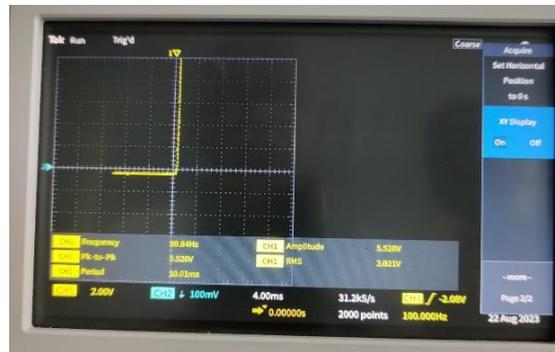

Fig. E2 – XY plot – medium light conditions
- h) Take measurements for two light conditions – medium light and for the maximum light. (See the X-Y plot images shown below (Fig.E2 and Fig.E3) for medium and higher light intensities)